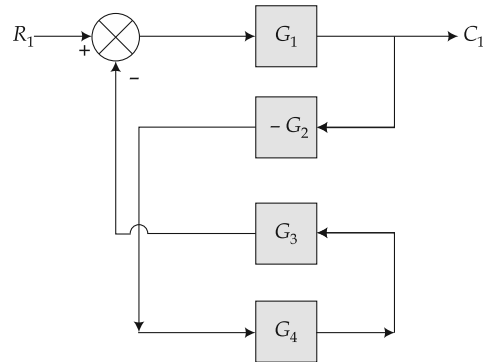
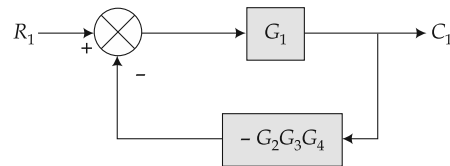
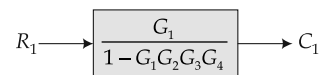

Fig. 2.39
Fig. 2.40
Fig. 2.41
Step 3: G_2 , G_3 and G_4 are in cascade, so Fig. 2.39 reduces to Fig. 2.40.
Step 4: Eliminating feedback loop, Fig. 2.40 reduces to Fig. 2.41.